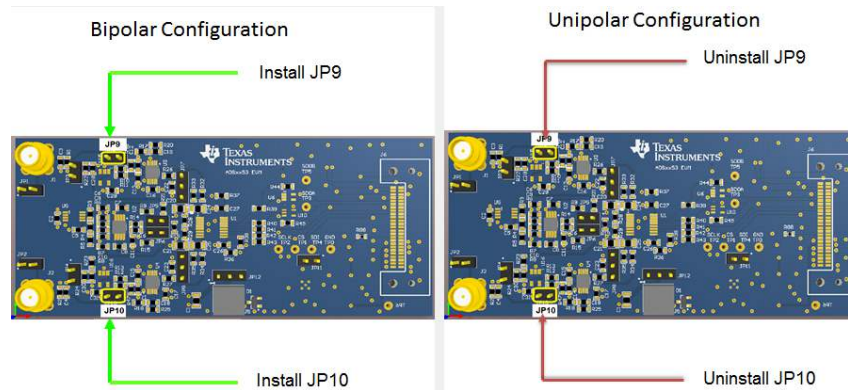

Figure 19. Bipolar or Unipolar Signal Jumper Settings Description on the GUI
3. Scroll down in the *ADS8350EVM Settings* page and find the *ADS8350 Analog Inputs* connections descriptions on the GUI. The ADS8350EVM can be driven with a signal generator producing a bipolar source signal centered on GND or a unipolar signal centered at $+V_{ref} / 2$. Jumpers JP9 and JP10 are installed when supporting a bipolar signal centered at GND. Jumpers JP9 and JP10 must be removed when supporting a unipolar signal source signal centered at 2.5-V. Figure 19 shows jumpers JP9 and JP10 on the *ADS8350EVM Settings* page of the GUI.